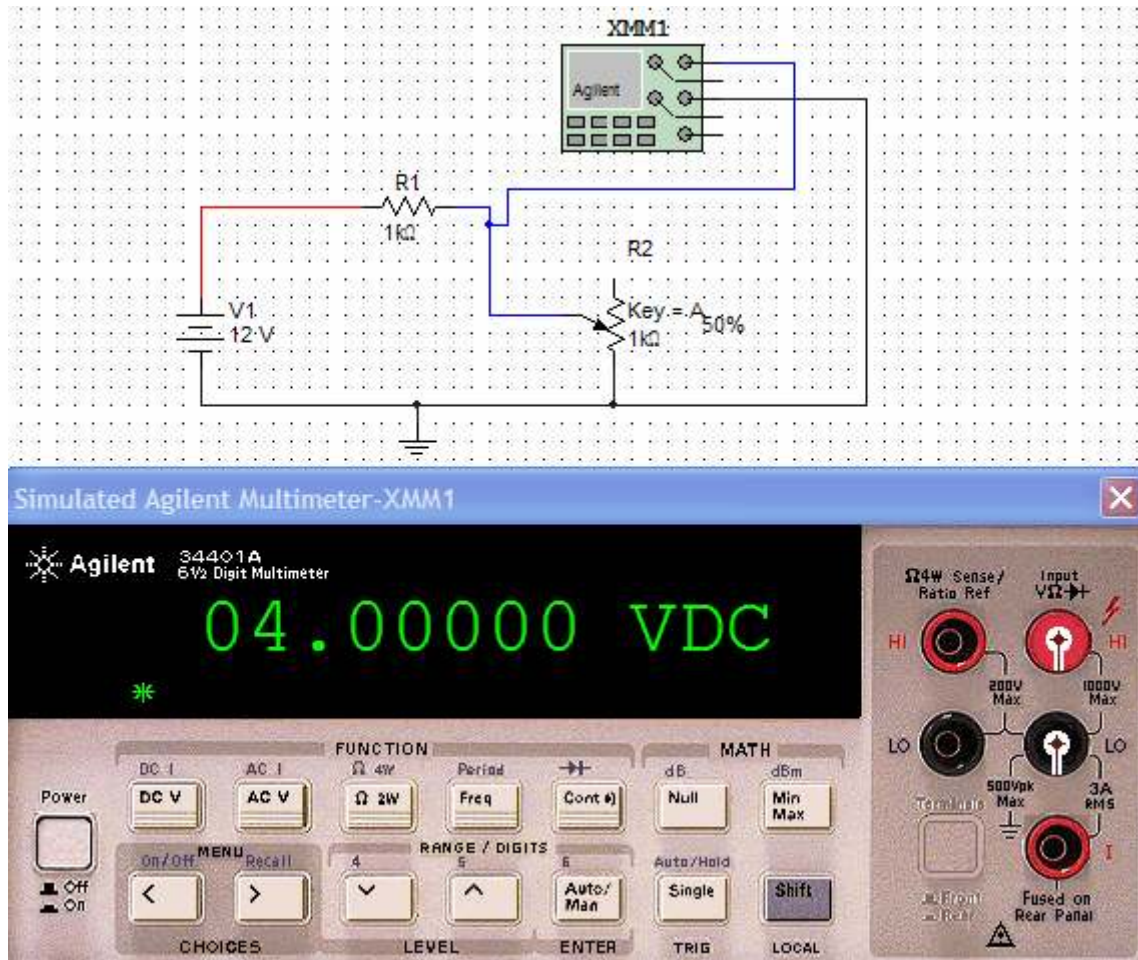

Figure 15. The simulation result
11. To simulate the circuit, **Left-click** the “Simulate” button in the Simulation Toolbar. Figure 15 shows the result.